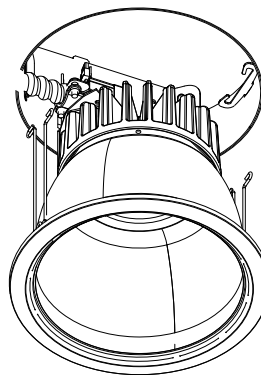

Figure 3
4. For trims with torsion springs, compress torsion spring and insert into receiver in plaster ring and push up to seat. See Figure 3.